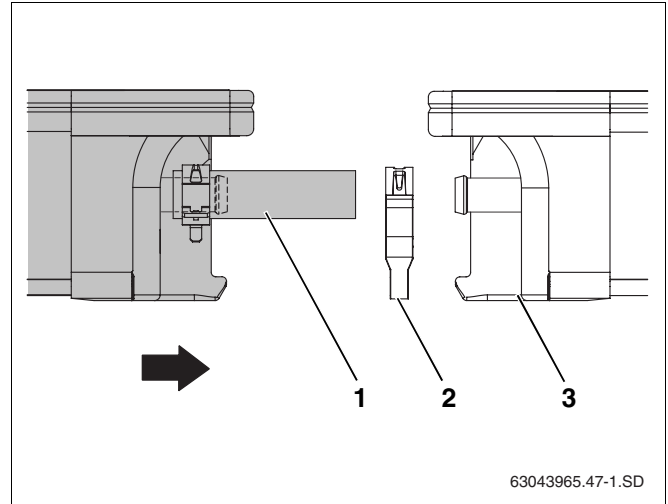

Fig. 27 Joining second collector with the first
- ▶ Allow the second collector and the pre-assembled solar hoses (Fig. 27, **Item 1**) to slide into the anti-slip protection device.
- ▶ Push the second hose clip (Fig. 27, **Item 2**) onto the solar hose.
- ▶ Push the second collector towards the first collector in such a way that the preassembled solar hoses are pushed onto the left-hand connections on the first collector (Fig. 27, **Item 3**).